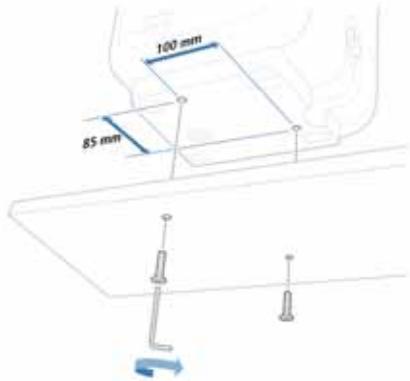

Figure 3-1. Positioning screw holes to attach ventilator
1. Drill the required screw holes (6.6 to 7.0 mm diameter required) into the surfaces as needed. Figure 3-1 provides positioning specifications.